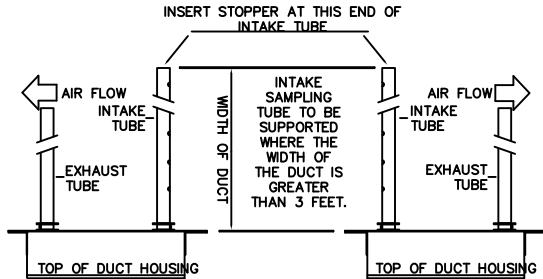

FIGURE 2 SAMPLING TUBE ORIENTATION
The Duct Detectors are designed for use in ducts where the air velocities are from 300 to 4000 feet per minute. Verify this by checking specifications of installation and if necessary, use an Alnor Model 6000P velocity meter (or equivalent) to check the air velocity. See Figure 2 for sampling tube orientation to air flow direction.
C. SAMPLING TUBE ASSEMBLY (See Figure 2)
The sampling tubes may be ordered to a desired length or ordered in one of 3 standard lengths and cut per requirements. The intake sampling tube consists of a piece of steel piping with a series of holes drilled the entire length of the tube and should extend the entire width of the duct. The holes must be facing into the air flow (see Figure 2). The exhaust tube consists of a piece of steel piping approximately 7-1/2" long.
D. MOUNT SAMPLING TUBES (See Figure 2)
1. Sampling tube connectors are equipped with set screws, which allow the tubes to be mounted only in directions shown in Figure 2. Establish proper orientation considering airflow direction.